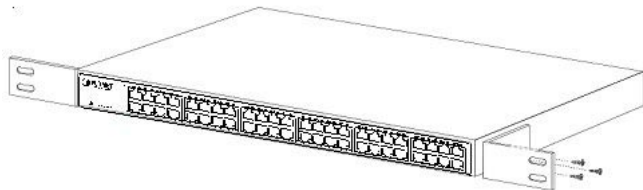

Figure 2-3 Attaching the brackets to the FNSW-4800
Step 2: Attach a rack-mount bracket to each side of the Switch with supplied screws attached to the package. Figure 2-3 shows how to attach brackets to one side of Switch.